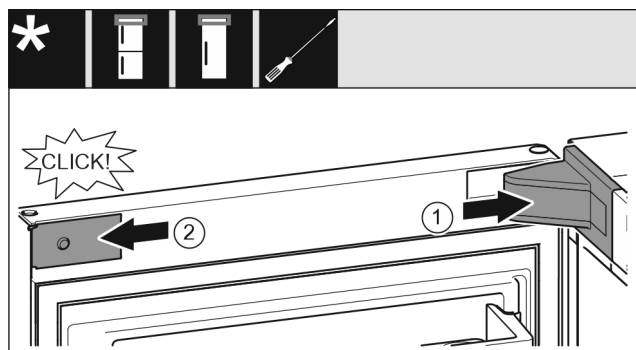

Fig. 26
- ▶ Position the swap bearing block cover Fig. 26 (1) and snap it in. You may need to push it carefully apart.
- ▶ Attach the panel Fig. 26 (2) from the side and snap it on.